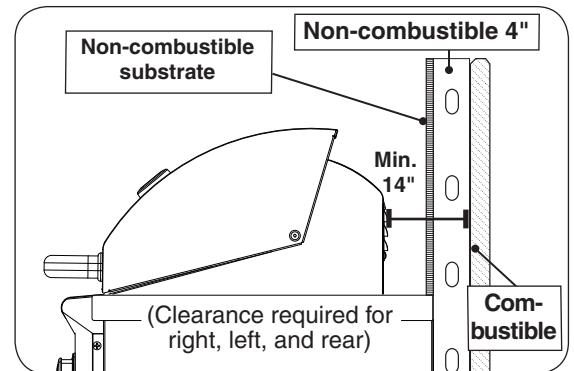

Fig. 11-2 Clearance 'B' Diagram
B. Clearance between grill and a protected combustible wall (i.e. a non-combustible wall in front of a combustible wall to serve as a barrier. This can be accomplished by brick, or a metal stud finished with non-combustible substrate, see Fig. 11-2)